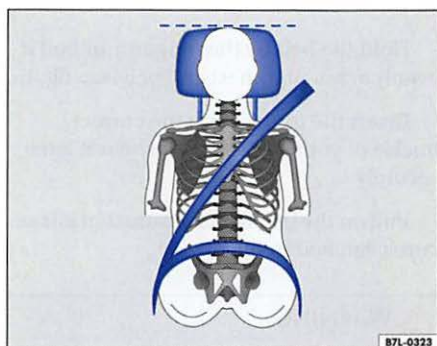

Fig. 13 Head restraint and safety belt position as seen from the front
- The safety belt must lie flat and snug on the occupant's upper body ⇒ fig. 13.